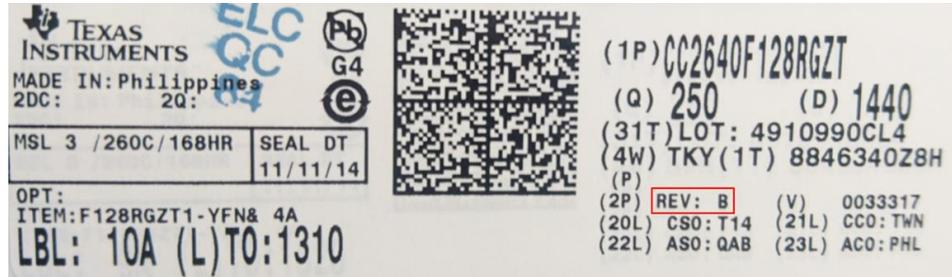

Figure 3. Sample Product Shipping Label for the CC2640 Device
- The die revision name is shown on the tape and reel label as shown in the example label in Figure 3.